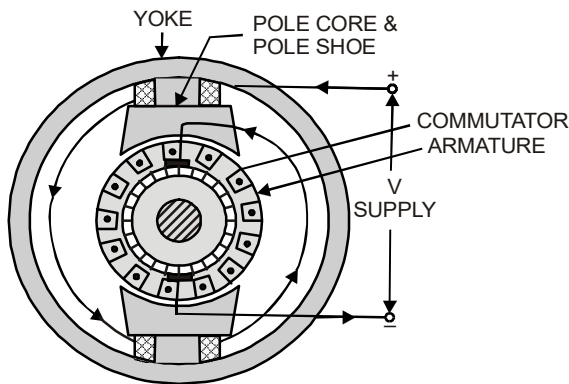

Fig. 4.41: Universal motor
1. Stator. It is the stationary part of the motor. It consists of *magnetic frame* (or *yoke*), *pole core* and *pole shoe* and *field* or *exciting winding* as shown in fig. 4.41.